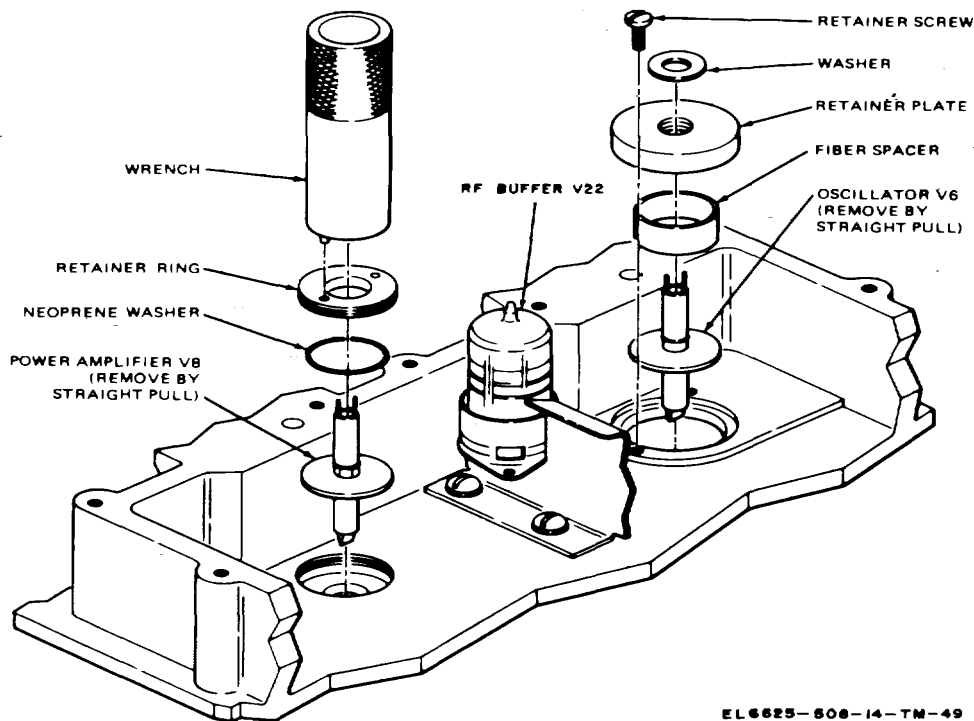
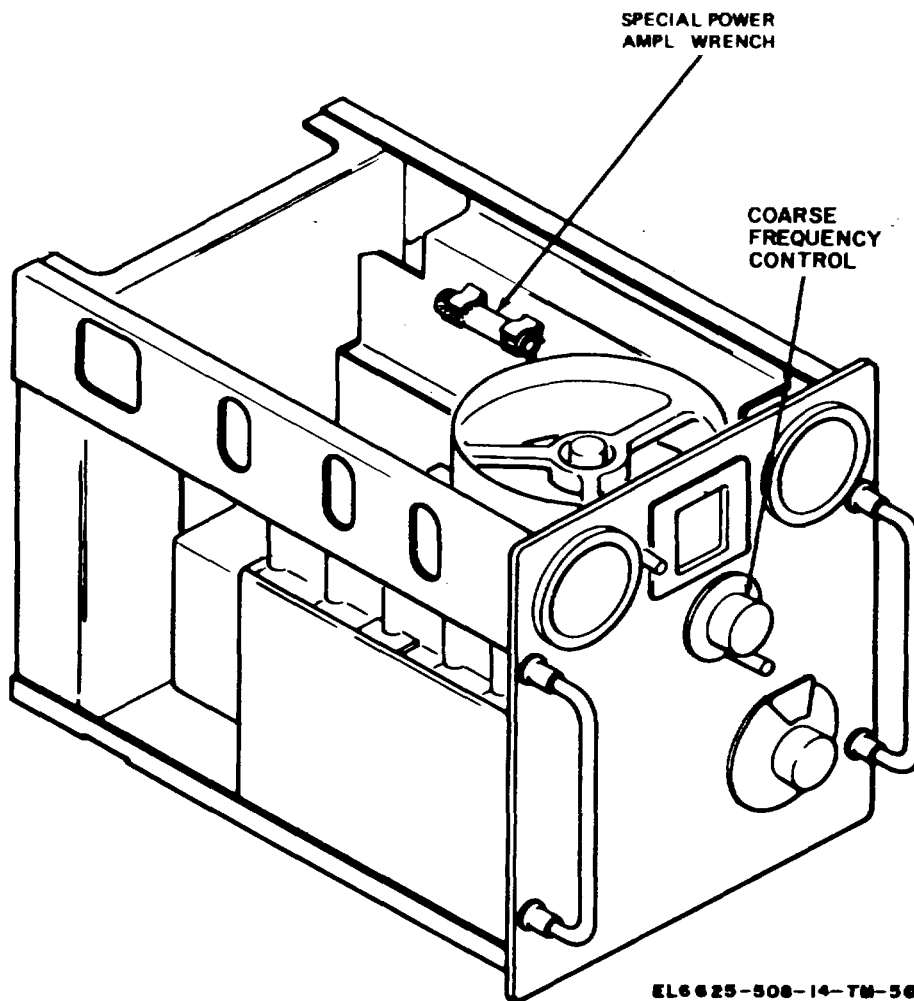

Figure 6-20. Replacement of rf oscillator, rf buffer, and rf amplifier tubes.
Figure 6-21. Special rf power amplifier wrench, storage location.
(1) To remove V6, it is necessary to remove the frequency dial and the small cover at the top of the casting that houses the rf oscillator tube, the rf buffer tube, the power amplifier tube, and associated biasing networks (fig. 6-20). Removal and replacement of frequency dial and casting top cover are described in paragraph 6-11h.
(2) After frequency dial and top cover are removed, remove V6 filament socket by straight pull.
(3) Remove cathode clip by pulling straight up.
(4) Remove two BH screws holding retainer plate; then remove plate and fiber spacer. Do not disassemble the separate parts of the retainer plate.
(5) Lift tube gently from hole by straight pull.
(6) Replace tube in reverse order of above steps.
(7) Paragraph 6-12c describes setting of filament supply voltage.
(8) Replace frequency dial and casting cover.
- (1) Remove frequency dial and top plate from generator housing. Refer to paragraph 6-11h
- (2) Refer to figure 6-20. Pull rf buffer tube V straight out and replace.
- (3) For amplifier V8, remove filament socket straight pull
- (4) Remove cathode clip from tube by pulling straight up.
- (5) Use special wrench (fig. 6-21) to loosen threaded retainer ring that holds V8 in housing. 1 move retainer ring and neoprene washer.
- (6) Remove tube by straight pull
- (7) To replace V8, install tube straight into socket and press firmly to seat tube.
- (8) Set neoprene washer on grid of tube, and align filament pins parallel with casting sides.
- (9) Keeping neoprene washer centered, install and tighten retainer ring.
- (10) Push clip onto cathode.
- (11) Carefully install filament socket over filament pins, and push down to seat.
- (12) Refer to paragraph 6-12c. Check and, if necessary, adjust filament supply voltage.
- (13) Refer to paragraph 6-12k. Perform power leveling adjustments.
- (14) Replace frequency dial and casting cover.